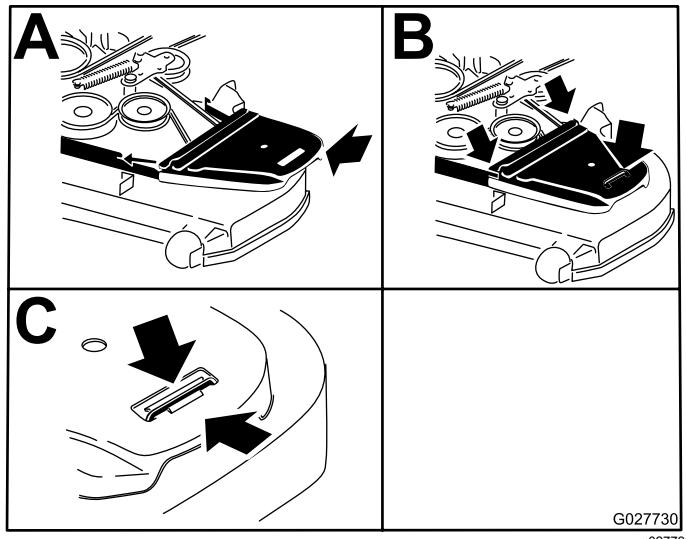

Figure 69
12. Install the belt covers (Figure 69).